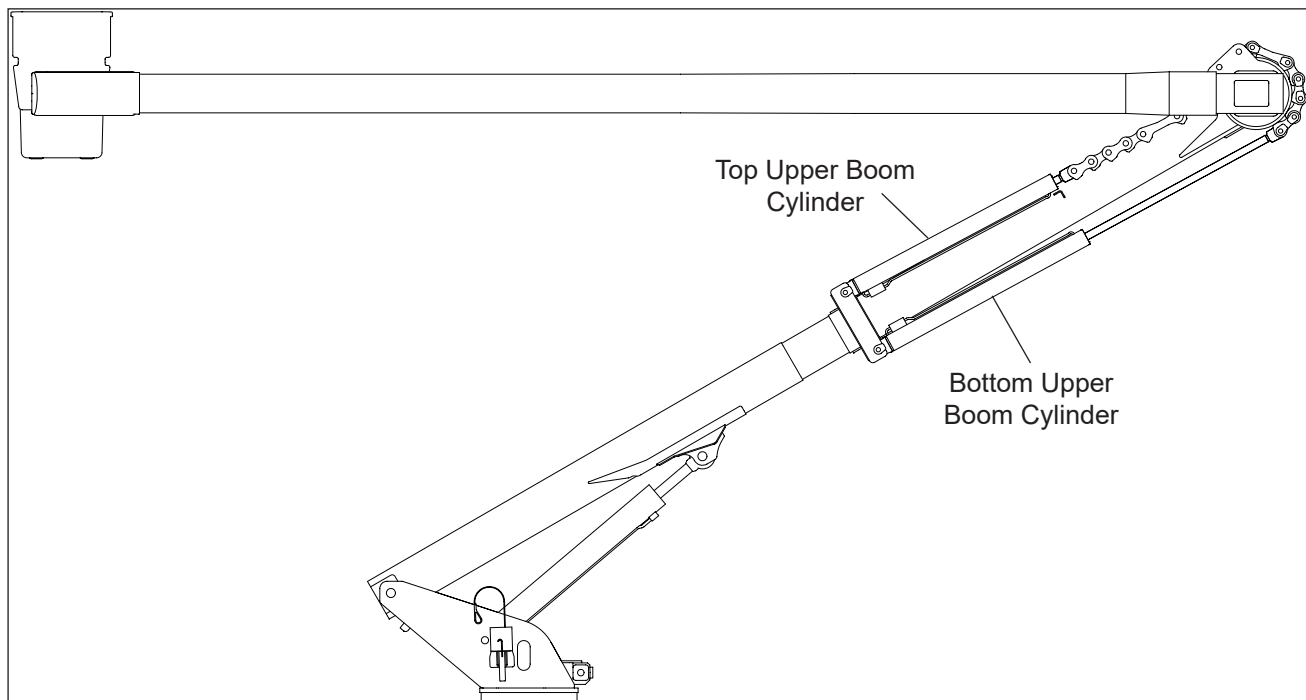

Figure 1 — Upper Boom Cylinders (Boom Unstowed)
3. From a stowed position, access the unit's top upper boom cylinder (refer to Figure 1). The boom can be accessed from the top of the chip box or cab guard. Make sure to always maintain at least three points of contact while completing this inspection. Note that Figure 1 shows the boom unstowed position to assist in identifying the correct cylinder for inspection.